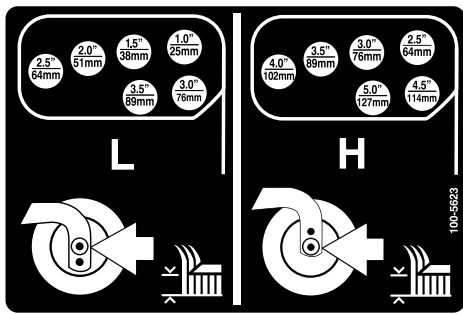

Figure 23
7. Rotate the tension rod to raise or lower the pivot arm until the holes are aligned with the selected height-of-cut bracket holes in the mower-deck frame (Figure 22 and Figure 23).